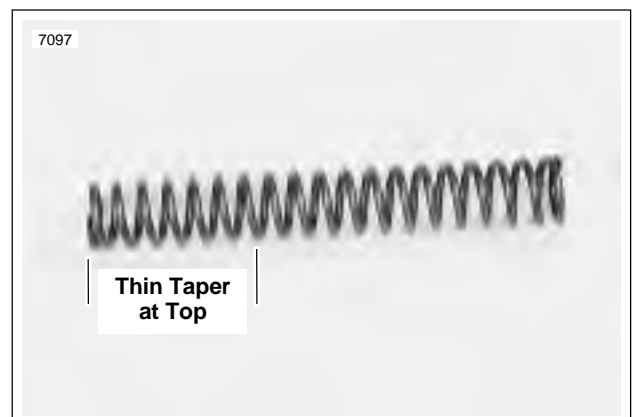

Figure 2-54. Spring Installation
16. See Figure 2-54. Install the spring, with the taper side at top, and the spring collar and spring joint.